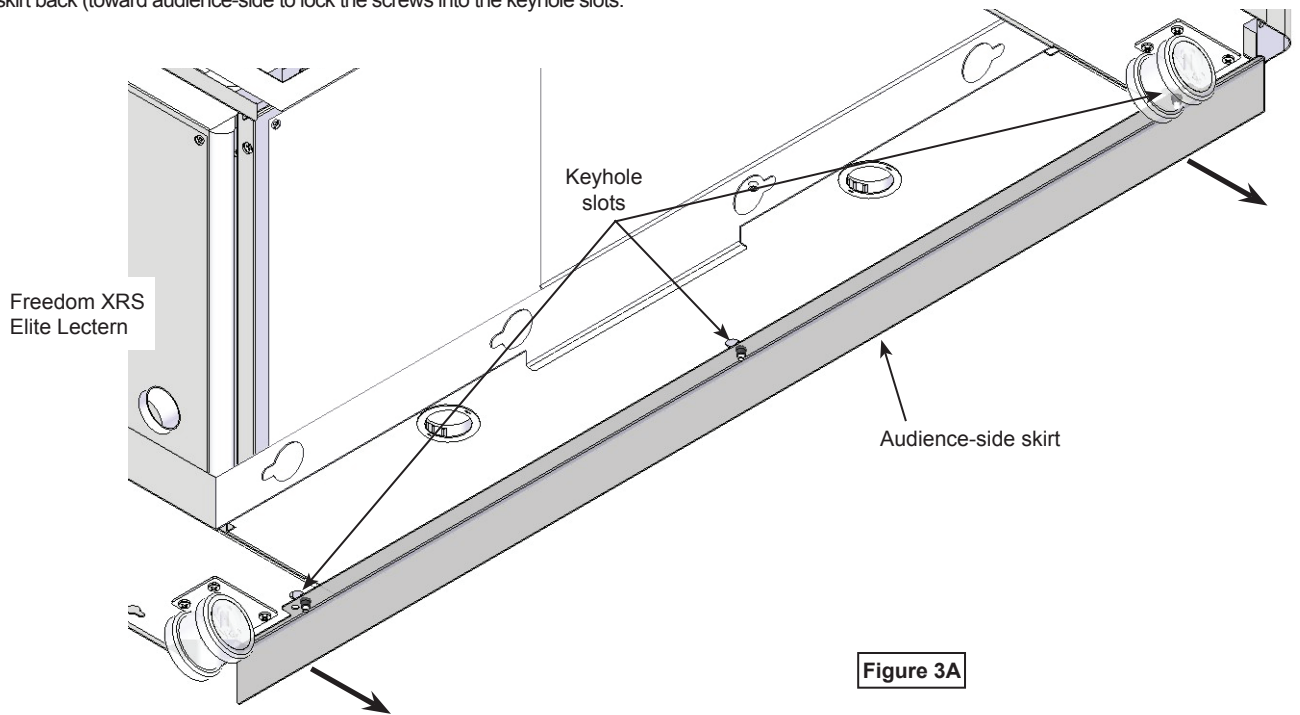

Figure 3A
1. Position the audience-side skirt as shown and hook the (3) pre-installed screws into the (3) keyhole slots. **Figure 3A.**